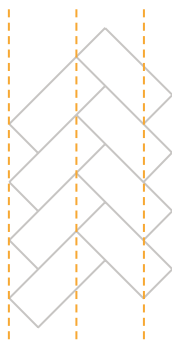

Figure 5: Initial row with reference lines.
- Be very careful in laying the initial row correctly and at a right angle, as this is crucial for the rest of the installation process and the end-result. Use reference lines to maintain the direction, as minor inconsistencies quickly spread to the rest of the floor. See Figure 5.